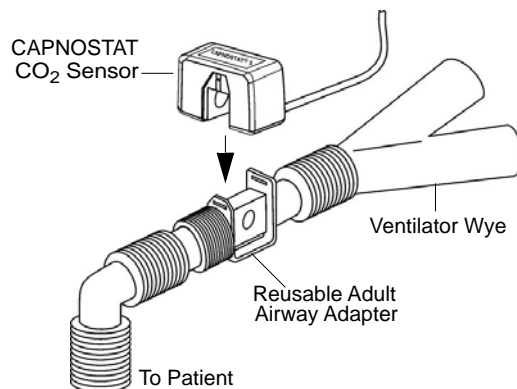

Figure 2
1. Place the CAPNOSTAT 5 CO2 sensor/airway adapter assembly between the elbow and the ventilator circuit wye, as shown in Figure 2.